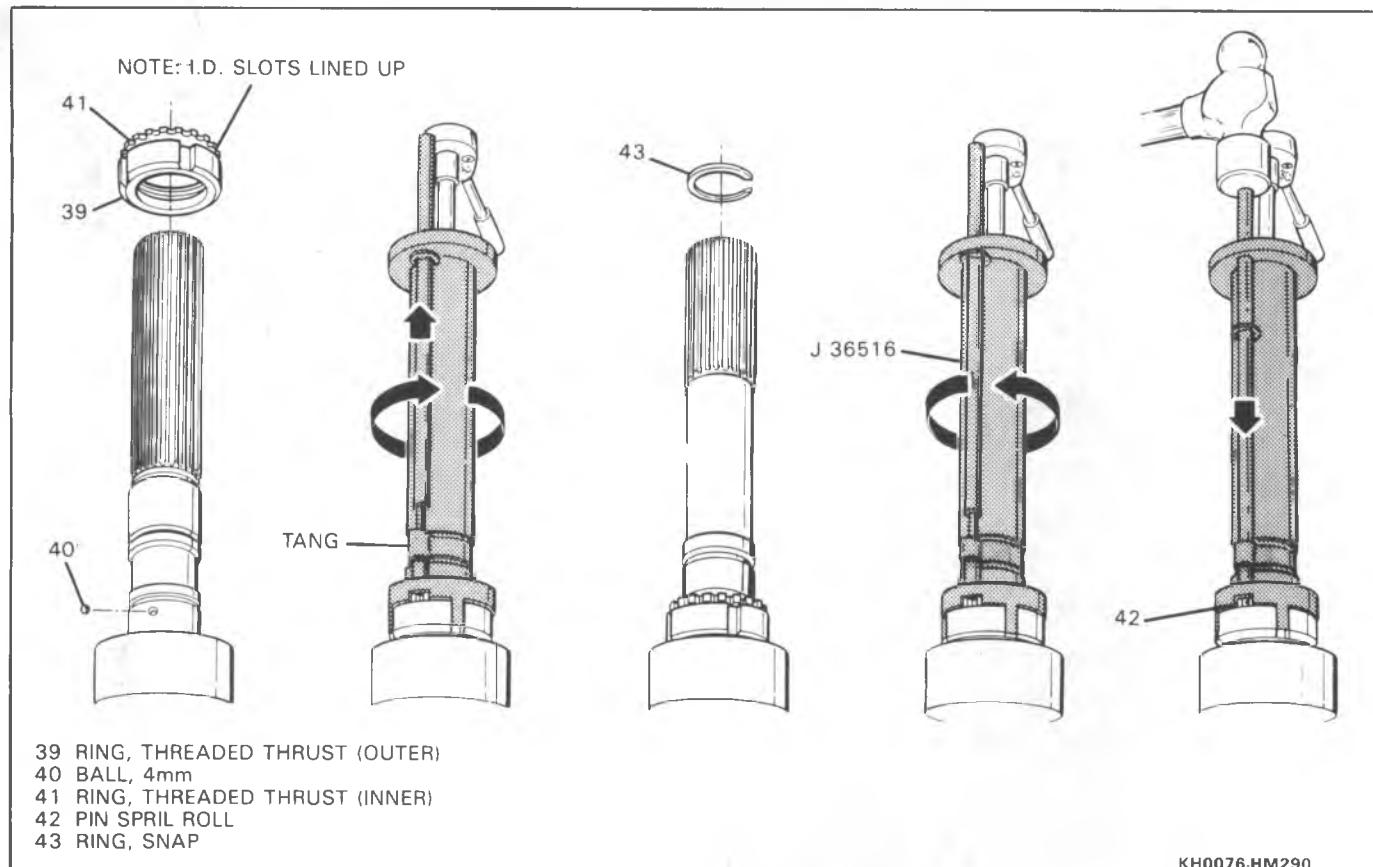

Figure 74 Threaded Thrust Rings Assemble
7. Ball (4mm) (40) (Figure 74).